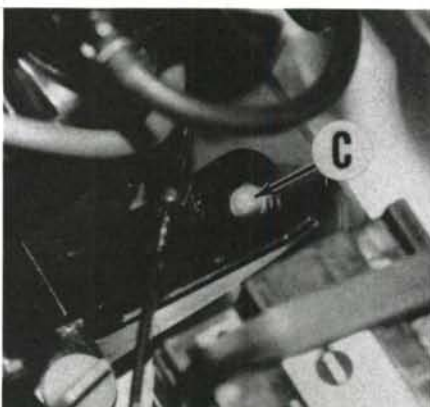
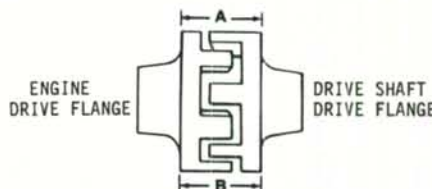
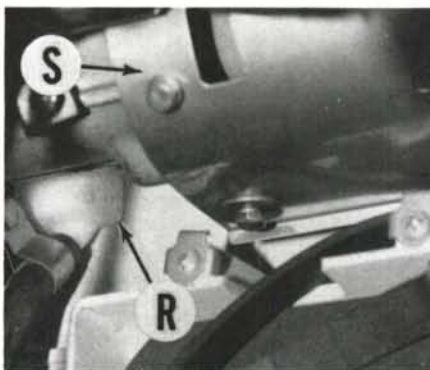

Fig. JS1-26—Cap screw (C) and washer on each side of front and rear engine crankcase mounts retains engine assembly to engine bases.
Fig. JS1-28—Distance (B) should not exceed distance (A) by more than 0.6 mm (0.024 in.).
Fig. JS1-34—View identifies drive coupler shield (S) and location of bilge strainer (R).
REMOVE AND REINSTALL. Disconnect battery cables from battery and remove battery from vehicle. Remove throttle cable and choke cable from carburetor. Remove hoses from carburetor, label if needed and plug openings. Remove flame arrestor and carburetor fasteners, then withdraw components. Cover intake manifold passage to prevent entrance of foreign debris. Remove oil supply hose from oil injection pump and plug openings. Disconnect all electrical wiring that will interfere with engine removal and label for reassembly. Remove cooling system hoses from exhaust pipe and elbow. Remove exhaust pipe and elbows. Remove drive coupler shield (S—Fig. JS1-34). Remove four cap screws (C—Fig. JS1-26) and washers retaining engine to vehicle hull. Note shims located under engine mounts and identify each shim for installation in original location. Remove any other components that will interfere with engine removal. Use a suitable lifting device to hoist engine assembly from vehicle. Place engine assembly on a clean work bench.
coupler is located between engine drive flange and drive shaft drive flange. Install shims into original locations under engine mounts. Lay a straightedge (S—Fig. JS1-27) across top of engine drive flange and drive shaft drive flange. Engine drive flange should be 0-0.3 mm (0-0.012 in.) higher than drive shaft drive flange. Measure distance (A—Fig. JS1-28) and distance (B). Distance (B) should not exceed distance (A) by more than 0.6 mm (0.024 in.). Measure clearance between engine drive flange and coupler and drive shaft drive flange and coupler. Total of the two clearance measurements should not exceed 0.5 mm (0.020 in.). If recommended settings are not measured, then adjust thickness of shims located under engine mounts until recommended settings are obtained. Apply Loctite Lock N' Seal or a suitable equivalent on threads of four cap screws (C—Fig. JS1-26) and tighten cap screws to 37 N·m (27 ft.-lbs.). Remeasure as previously outlined to verify engine drive flange to drive shaft drive flange settings are as recommended. Adjust shim thickness if needed.
When the vehicle is operated, the jet pump forces water past siphon hose (S—Fig. JS1-23) opening. The passing force of water creates a vacuum effect, thus drawing (siphoning) any water out of vehicle bilge. Make sure all hoses and strainer (R—Fig. JS1-34) are kept clean of all foreign debris. Disassemble and clean or renew components if needed. Make sure all hose connections are tight or vacuum loss will result in siphoning system malfunction. An antisiphon loop is positioned at top, rear of engine compartment to prevent water from being drawn into hull when engine is not being operated. Make sure small breather
R&R AND OVERHAUL. Disconnect battery cables from battery and remove battery from vehicle. Remove throttle cable and choke cable from carburetor. Remove hoses from carburetor, label if needed and plug openings. Remove flame arrestor and carburetor fasteners, then withdraw components. Cover intake manifold passage to prevent entrance of foreign debris. Remove oil supply hose from oil injection pump and plug openings. Disconnect all electrical wiring that will interfere with engine removal and label for reassembly. Remove cooling system hoses from exhaust pipe and elbow. Remove exhaust pipe and elbows. Remove drive coupler shield (S—Fig. JS1-34). Remove four cap screws (C—Fig. JS1-26) and washers retaining engine to vehicle hull. Note shims located under engine mounts and identify each shim for installation in original location. Remove any other components that will interfere with engine removal. Use a suitable lifting device to hoist engine assembly from vehicle. Place engine assembly on a clean work bench.
Use a suitable lifting device to hoist engine assembly into vehicle. Make sure coupler is located between engine drive flange and drive shaft drive flange. Install shims into original locations under engine mounts. Lay a straightedge (S—Fig. JS1-27) across top of engine drive flange and drive shaft drive flange. Engine drive flange should be 0-0.3 mm (0-0.012 in.) higher than drive shaft drive flange. Measure distance (A—Fig. JS1-28) and distance (B). Distance (B) should not exceed distance (A) by more than 0.6 mm (0.024 in.). Measure clearance between engine drive flange and coupler and drive shaft drive flange and coupler. Total of the two clearance measurements should not exceed 0.5 mm (0.020 in.). If recommended settings are not measured, then adjust thickness of shims located under engine mounts until recommended settings are obtained. Apply Loctite Lock N'Seal or a suitable equivalent on threads of four cap screws (C—Fig. JS1-26) and tighten cap screws to 37 N·m (27 ft.-lbs.). Remeasure as previously outlined to verify engine drive flange to drive shaft flange settings are as recommended. Adjust shim thickness if needed.